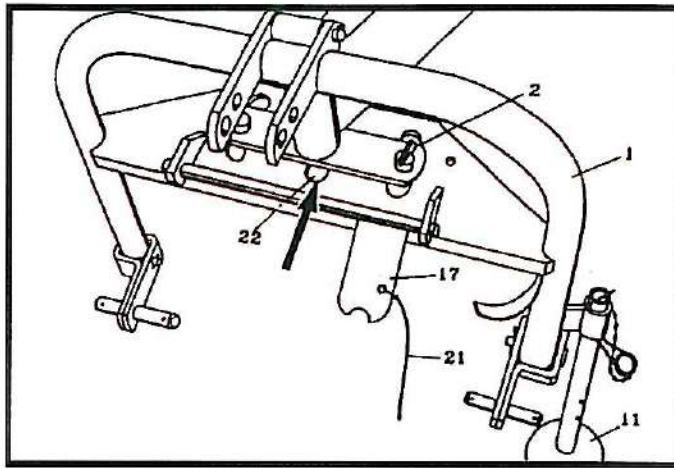

Fig. 6. Relieved joint between the three-point frame and intermediate frame.
- Lower the rake-tedder, move the tractor slightly to the right and relieve the joint between the three-point frame 1 and intermediate frame 2 (Fig. 6.)